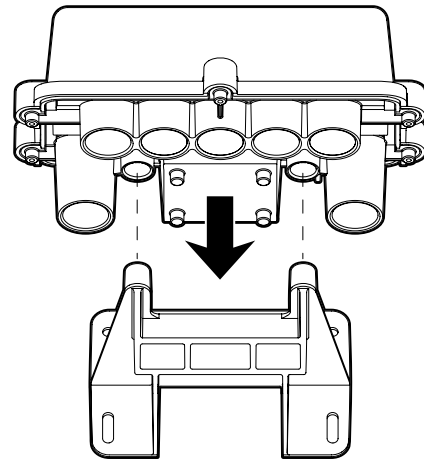

FIG. 2. Placing the Junction Box
2. Place the junction box onto the mounting bracket so that the front tabs on the mounting bracket slide into the slots on the front of the junction box. Refer to Fig. 2.